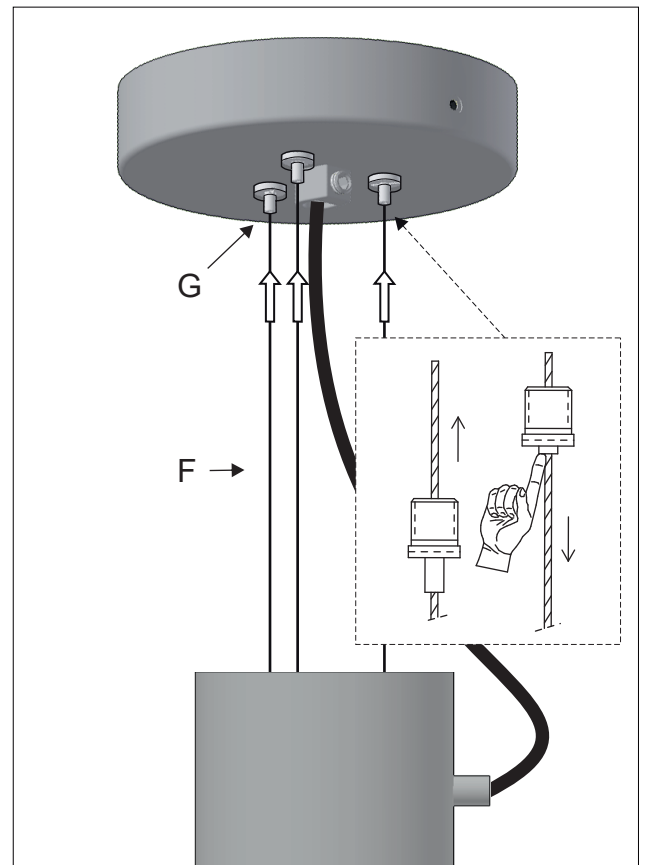

Figure 3
- 3 - Run the 3 steel cables (F) through the gripper supports (G) and adjust the cable to the desired length. Cut the excess steel cable. Figure 3